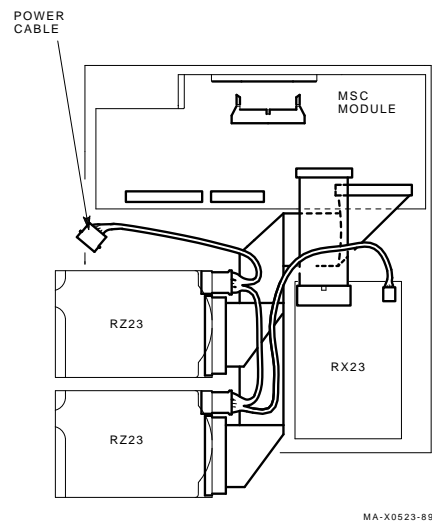
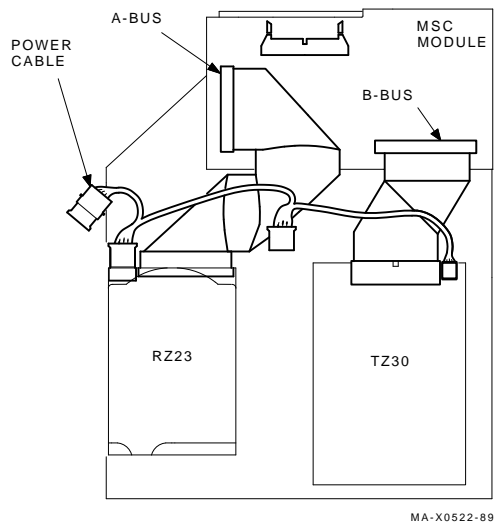

Figure 1-14 Connecting the RZ23 Data and Power Cables with an RX23 Diskette Drive
Figure 1-15 Connecting the RZ23 Data and Power Cables with a TZ30 Tape Drive
4. Connect the data and power cables to the RZ23 and to the MSC module as shown in Figure 1-14 (with an RX23) or Figure 1-15 (with a TZ30).